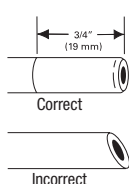

Fig. 2
- Measure 3/4" from the end of each remaining piece of tubing (inlet end and outlet end) and mark with a pencil. See Fig 2. Check for roundness, smoothness, cuts, nicks, flat spots and sharp edges.